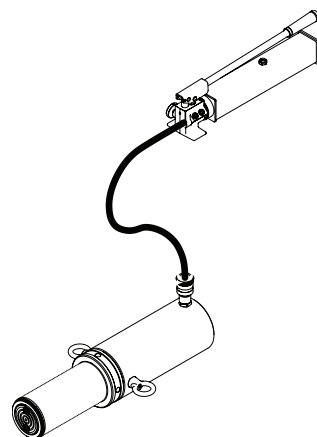

Figure 2 - Illustration to bleed air from system
1. Place pump at a higher elevation than the hose and cylinder as shown in Figure 2.